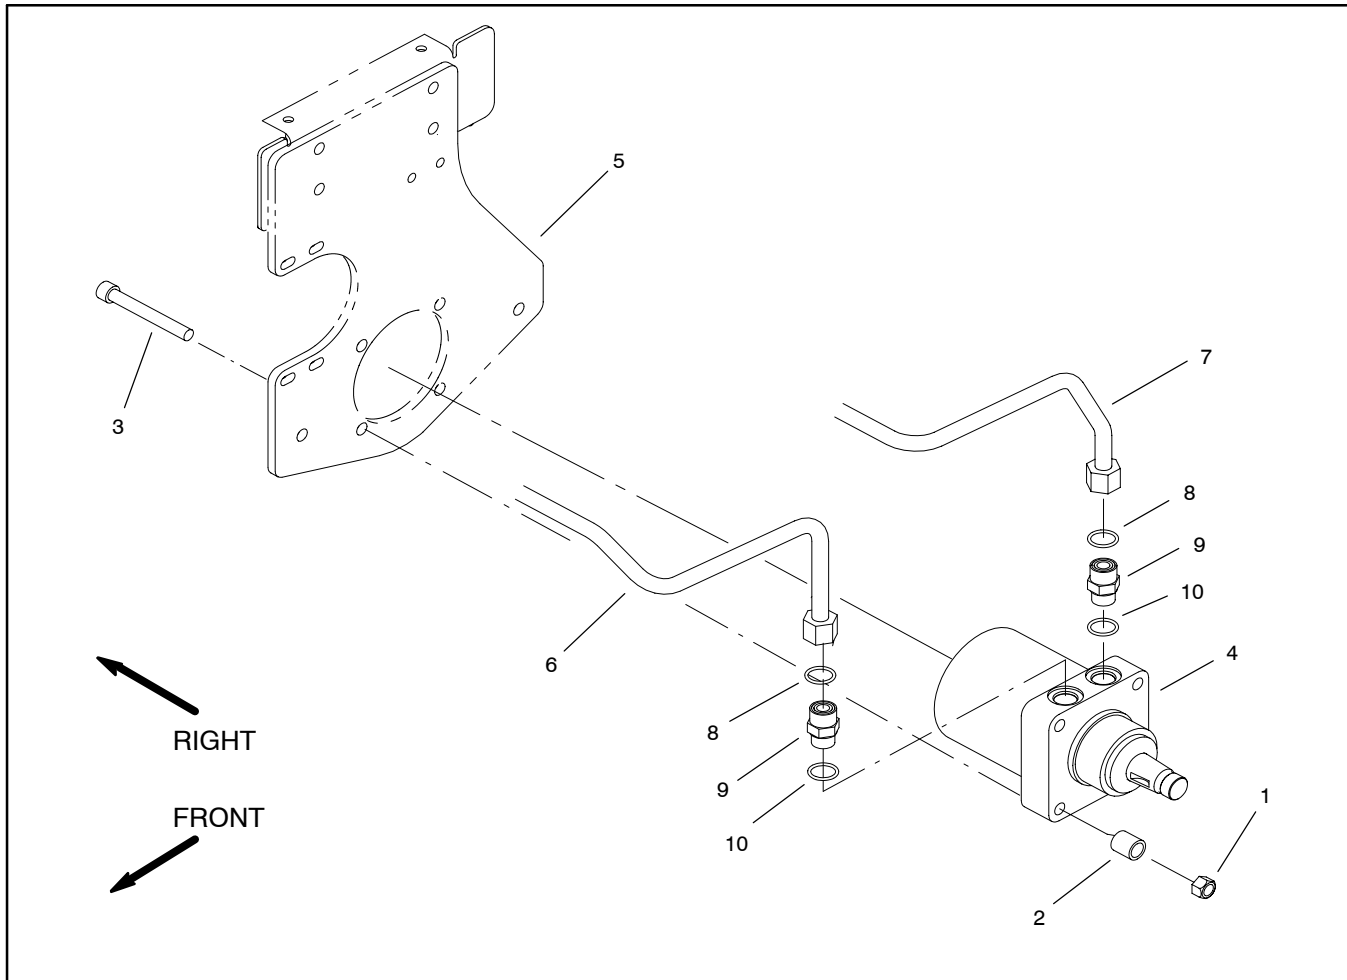

Figure 36
Removal (Fig. 36)
5. Remove wheel motor from frame using Figure 36 as guide.
Installation (Fig. 36)
1. Install wheel motor to frame using Figure 36 as guide.